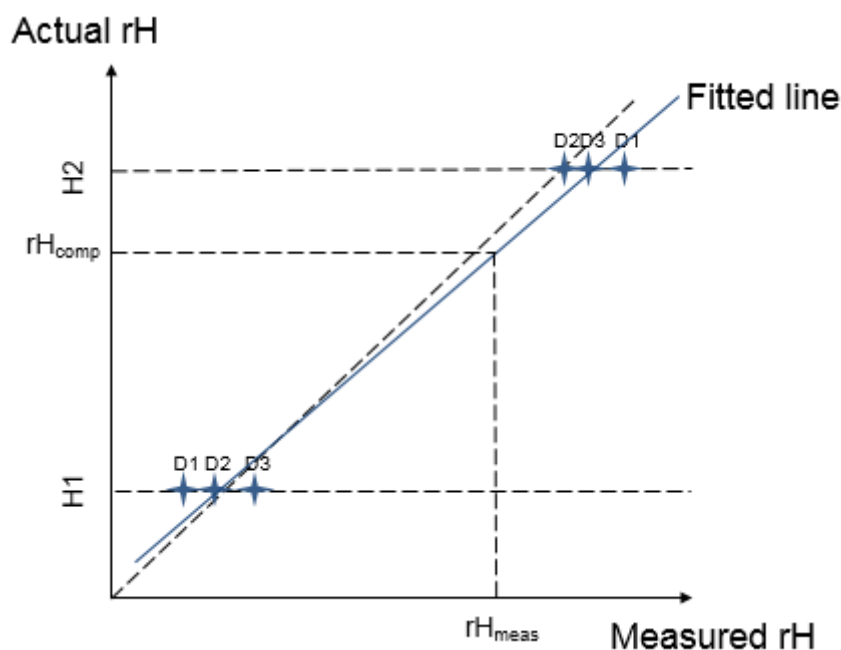

Figure 3: Schematic of humidity compensation
- ▶ Collect all of data, as shown in Figure 3: ( $rH_{meas,H1,D1}$ ,  $rH_{actu,H1,D1}$ ), ( $rH_{meas,H2,D1}$ ,  $rH_{actu,H2,D1}$ )...